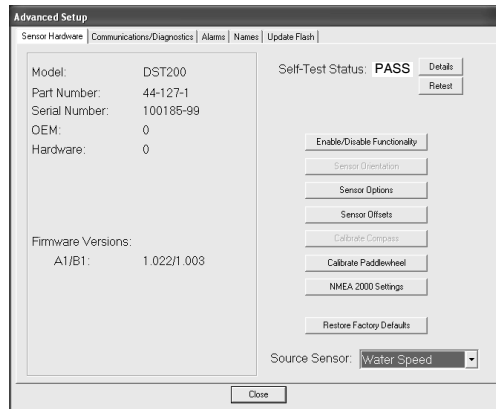
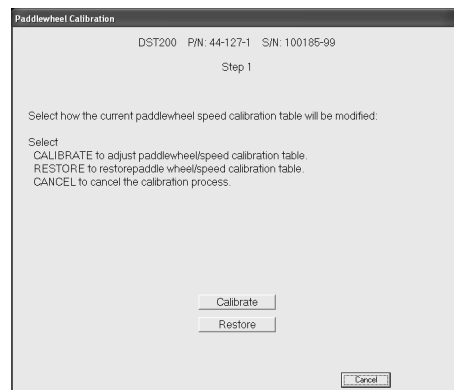
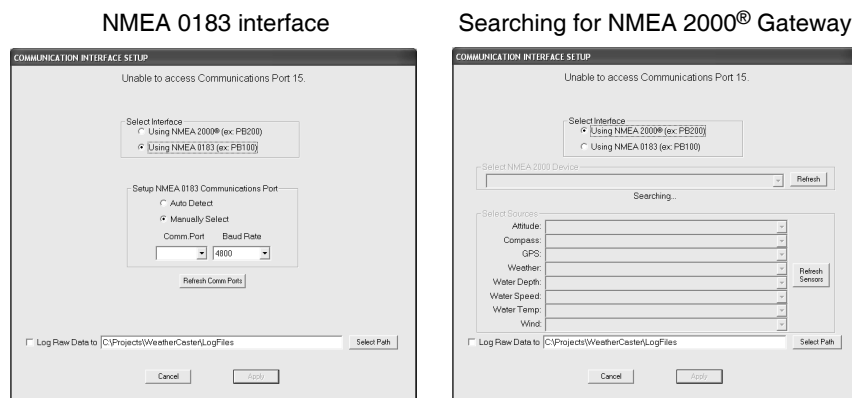

Figure 36. Advanced Setup window—Source Sensor DST200 identified by its Water Speed function only.
Figure 58. Paddlewheel Calibration Step 1
Figure 65. Sensor Communications Interface Setup window
**NOTE:** One sensor may report multiple functions. For example, a DST200 may give water depth, water speed, and water temperature data. However, this Source Sensor will be identified in the drop-down menu by only one of its functions (see Figure 36).
The paddlewheel can be calibrated if the Water Speed sensor is selected and a GPS device is available and selected for use. In the Advanced Setup window on the Sensor Hardware tab, select the Source Sensor, Water Speed (see Figure 36). On the Communications/Diagnostics tab select a GPS device (see Figure 65). Return to the Sensor Hardware tab and click Paddlewheel Calibration to begin. The Paddlewheel Calibration window will appear (see Figure 58). Follow Step 1. Click Calibrate to adjust the calibration table, Restore to return to the factory default setting, or Cancel to stop.
If the previous interface is not currently available or it is undetected, a Communications Interface Setup window will be displayed, similar to one of those shown below (see Figure 65). In the Select Interface dialogue box, chose either an NMEA 0183 or an NMEA 2000® interface by clicking the button to the left of your choice.